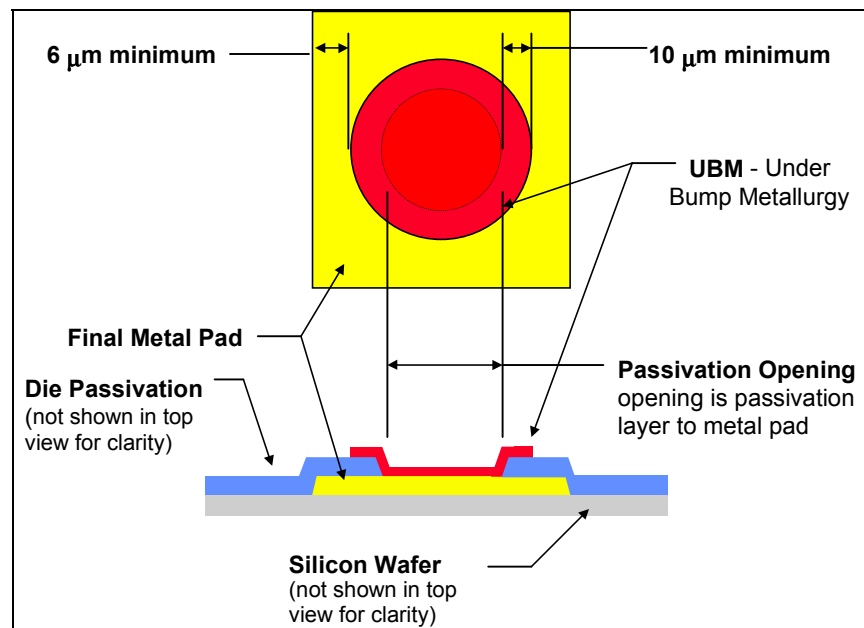

Figure 1. Dimensional requirements for solder bump UBM.
- 4.1 UBM Design Requirements** – One basic design requirement is the size of the UBM in relation to the sizes of the IC metal bond pad and the passivation opening. These dimensions correlate to the IC bond pad pitch. The UBM size and device pitch determine the possible bump height for the device. Figure 1 shows the dimensional requirements for the UBM in relation to the passivation opening and the IC metal bond pad. This design scheme ensures a reliable, robust bump in several ways. The overlap of the UBM to the passivation opening provides a seal to the underlying IC aluminum bond pad. This overlap shall be a minimum of 10 $\mu$ m on each side of the UBM. The containment of the UBM inside the IC metal bond pad eliminates stresses that can cause silicon cratering. This dimension is 6  $\mu$ m on each side of the UBM.